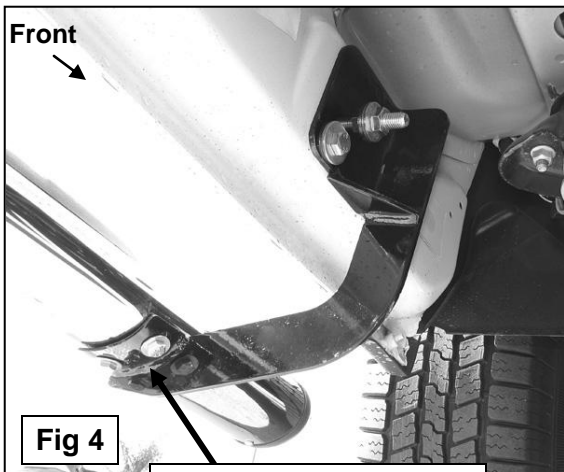

Fig 4
- Once all of the brackets have been installed, with assistance, carefully position the driver Sidebar onto the Mounting Brackets. Partially attach the Sidebar to the cradles on the Mounting Brackets using the included (6) 8mm x 25mm Hex Head Bolts, (6) 8mm Lock Washers, and (6) 8mm Flat Washers, **(Figure 4)**. Do not tighten hardware at this time.